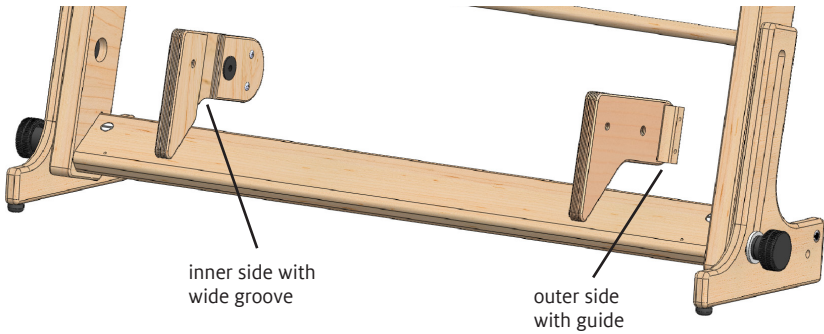

FIGURE 9: IDENTIFY MOUNTING PLATES
9. Identify the right and left mounting plates: the inner sides have wide grooves and the outer sides have guides attached to them. Set the left mounting plate on the inner side of the loom left upright, with the rounded end at the back and the slanted edge at the front resting on the loom's bottom beam (Figure 9).